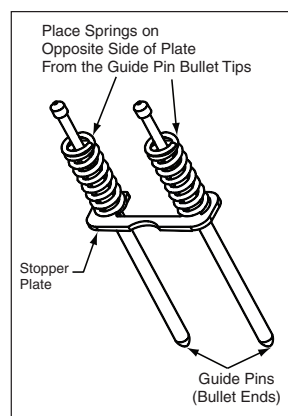

Figure 2
- b. Place springs onto the Guide Pins of the clamp assembly. Be sure that the springs are placed on the opposite side of the stopper plate from the guide pin bullet tips as shown in Figure 2.